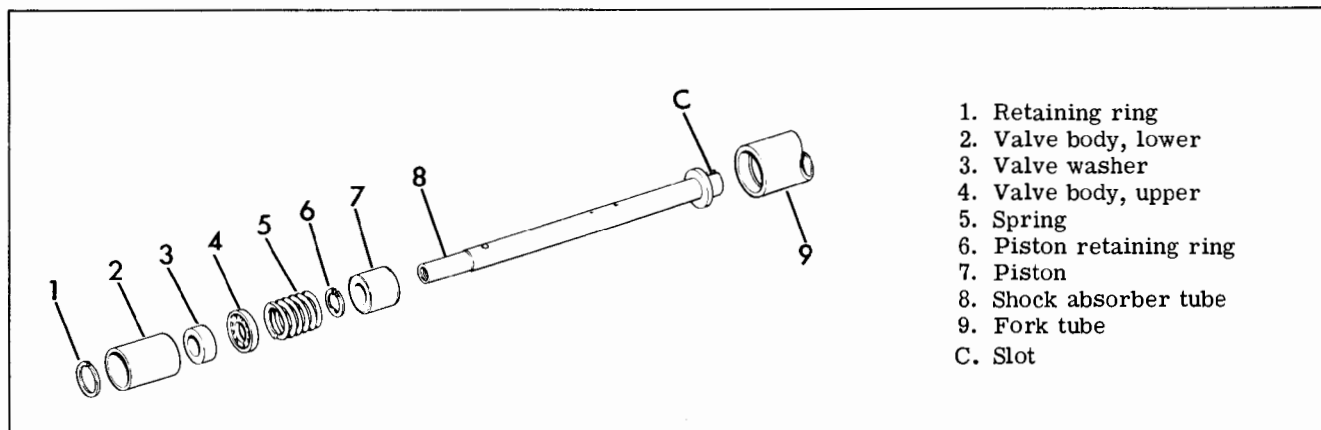

Figure 2-34D. Super Glide Front Shock Absorber - Exploded View
If snubbing action of the front fork remains unsatisfactory, bottoms on compression, stops suddenly on recoil and does not operate smoothly after eliminating malfunctions previously covered, disassemble fork as described in "Disassembling Front Fork Shock Absorber." Inspect shock absorber giving particular attention to the following parts (see Figure 2-34D: Check fit of damper piston (7) in fork tube (9) and fit on shock absorber tube (8). Check seating of washer (4) on upper and lower valve body faces. Replace worn or damaged parts.
Remove front wheel and brake assembly as described in "Wheels," "Removing and Installing Front Wheel." Remove front fender and headlamp housing. Remove fork tube cap (1). Loosen fork tube pinch bolt (4). Remove fork side (6) complete. Use Wrench, Part No. 94694-52, (see Figure 2-66A) and disassemble retainer (7) from top of fork tube (8). Remove spring (9) and drain hydraulic fork oil from fork tube. Turn assembly upside down and remove bolt and washer (12). It may be necessary to insert Tool, Part No. 95991-69 or a long screwdriver into 3/32 wide x 1/2 long slot C (Figure 2-34D) in upper end of shock absorber tube to keep it from turning while removing bolt (12). Free slider (10) from tube (8).
DISASSEMBLING FRONT FORK SHOCK ABSORBER (Figure 2-34D)
ASSEMBLING FRONT FORK SHOCK ABSORBER (Figure 2-34D)